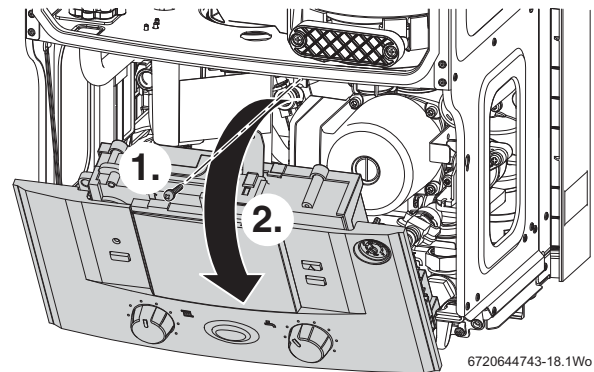

Fig. 52 Moving control panel into the service position
1. Refer to figure 52 and remove the screw securing the control panel.
- ▶ Refer to figure 52 and remove the screw securing the control panel.